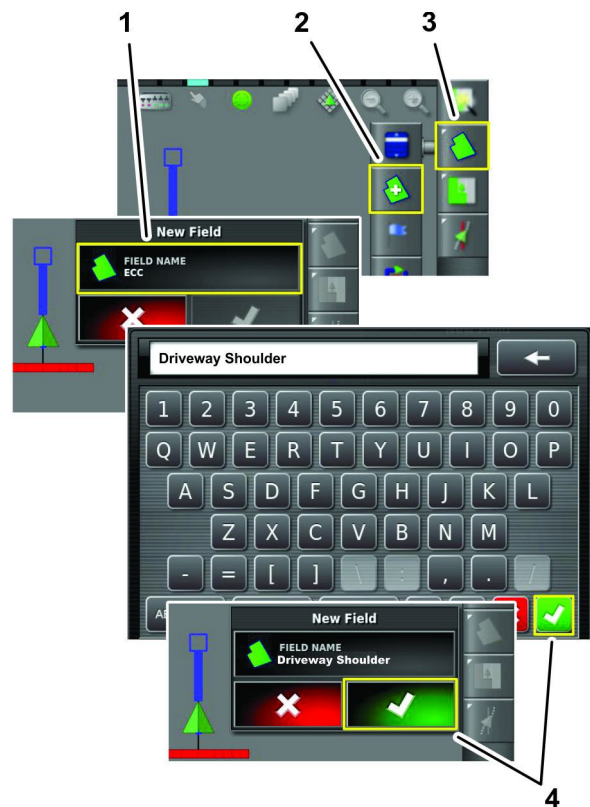

Figure 38
1. Press the Field Menu icon, and press the New Field boundary icon (Figure 38).
2. Press the Field Name icon (Figure 38).
3. Enter the field name with the on-screen keyboard, and press the confirm icon (Figure 38).
4. In the new field dialog box, press the confirm icon (Figure 38).